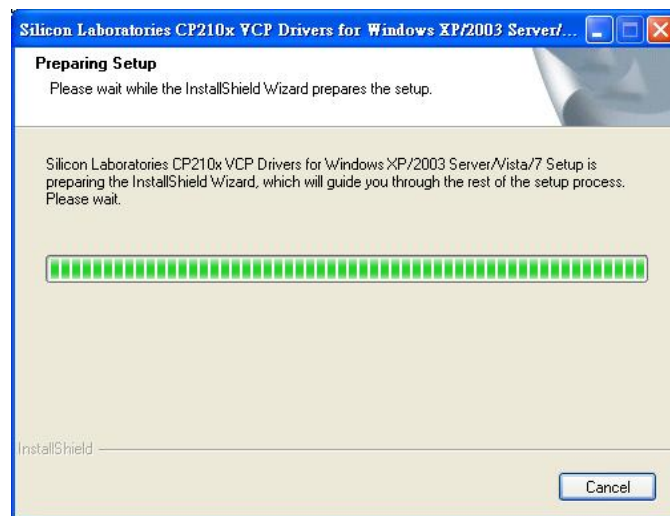

Figure 4-1: Preparing Setup Screen
Step 2: Run the **CP210x_VCP_Win2K_XP_S2K3.exe** file. The InstallShield Wizard prepares the setup as shown (**Figure 4-1**).